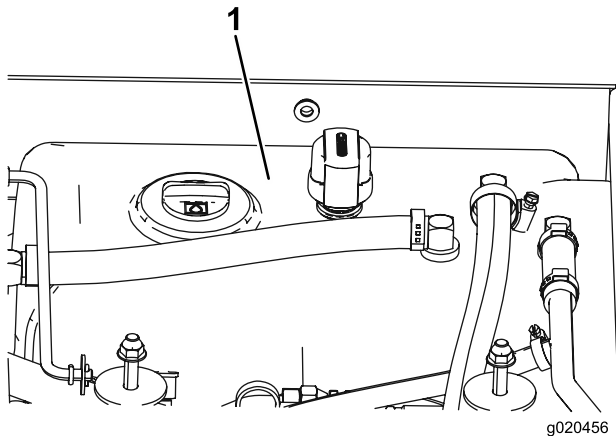

Figure 75
4. Fill the reservoir (Figure 75) with hydraulic fluid; refer to Checking the Hydraulic Fluid (page 55).